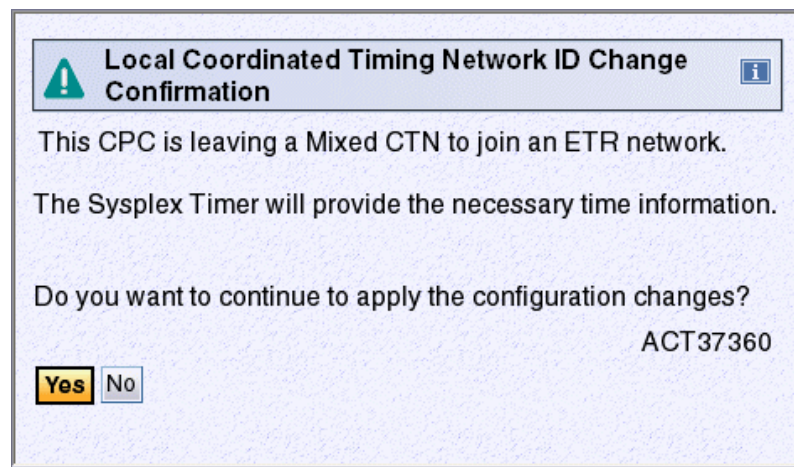

Figure 9-11 Message ACT37360 - Local Coordinated Timing Network ID Change Confirmation
4. Click **Apply**. This displays the Local Coordinated Timing Network ID Change Confirmation, message ACT37360 (Figure 9-11).